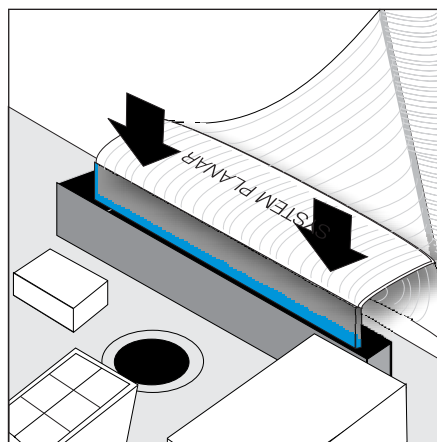

Figure 193. Install service controller cable into the system board
12. *Carefully* install the end of the ribbon cable (marked System P1anar) to the system board, being sure to install the cable straight in. See Figure 193 on page 473. Be sure to verify that the blue line on the cable connector end is not visible.